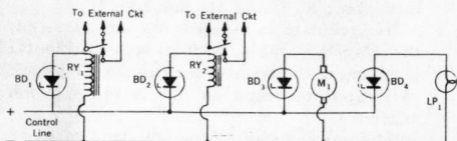

FIG. 10:
mechanical equipment, models, lamps or other devices. Since the potential applications are virtually unlimited, it is difficult to outline a specific project using these devices...each project must be "tailor-made" to fit individual needs. However, one possible arrangement, illustrated schematically in Fig. 10, is given as an example.
*Remote control* circuits (Fig. 10) and *Oscilloscope Demonstration* (Fig. 11) - see text.